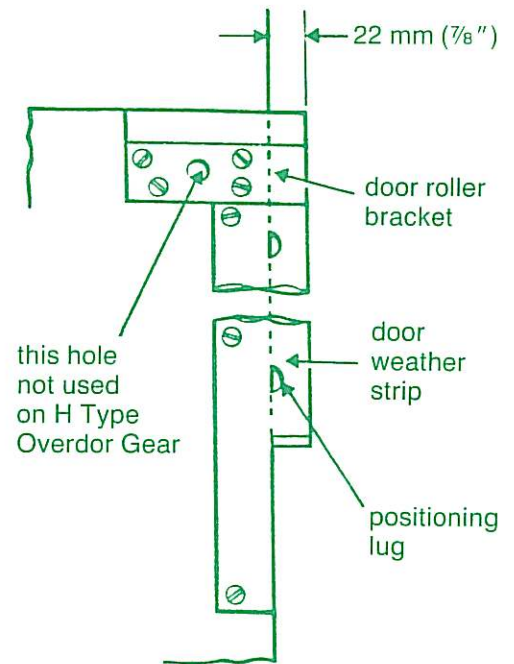

Fig. 1
2. Fix top roller brackets (roller spindle hole at top) with 38 mm ($1\frac{1}{2}$ ") \times No. 10 Round head screws (pilot with 2.25 mm ($\frac{3}{32}$ ") drill) so that the top edge of bracket is flush with the top of door and outer edge of bracket projects 22 mm ($\frac{7}{8}$ ") over side of door to form weatherseal (already fitted on metal doors). Fit door short weatherstrips to door with 25 mm (1") \times No. 8 Round head screws (pilot with 1.95 mm ($\frac{1}{16}$ ") drill or bradawl) butting top strips to underside of door roller brackets and projecting 22 mm ($\frac{7}{8}$ ") over sides of door. Push positioning lugs against door side (door weatherstrips already fitted on metal doors). See Fig. 1.